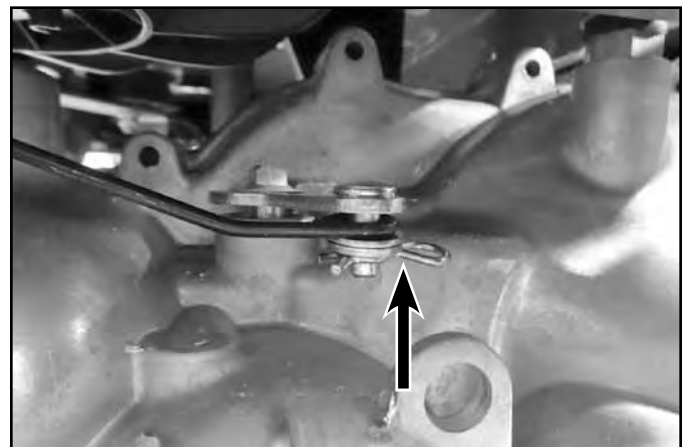

Fig. 059
5. Remove the bypass lever clip and washer(s). Remove the bypass lever from the unit (Fig. 059). (MX shown)